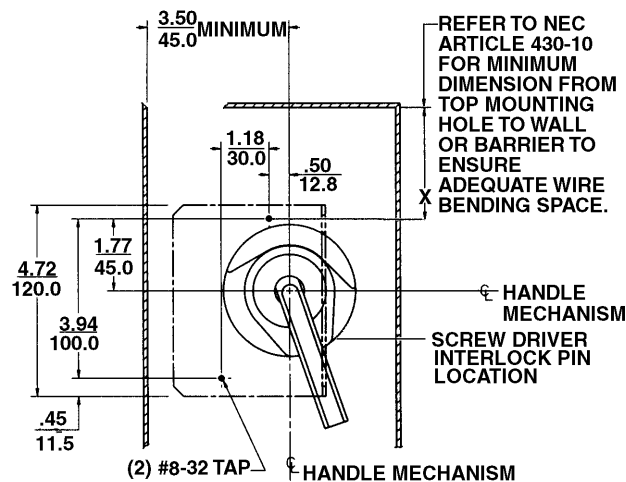
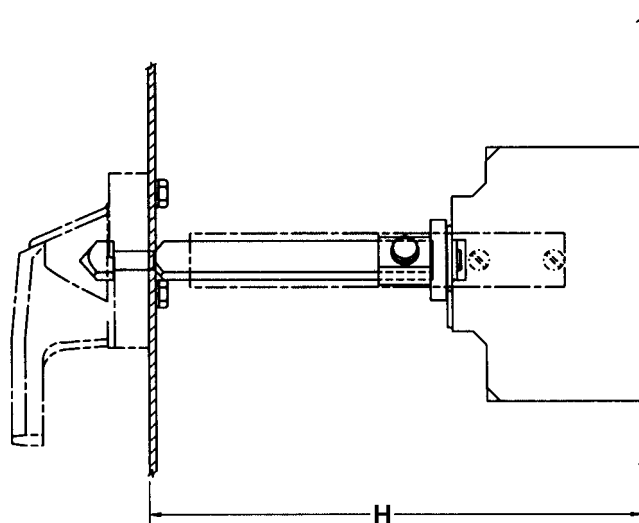

Figure 1 Panel Drilling
Figure 2 3-1/2" Handle Assembly
4. Determine location of circuit breaker on panel (see Figure 1). Mark, drill and tap hole for two #8-32 x 1/2 mounting screws.
6. Determine enclosure mounting depth (dimension H in Figure 2). Calculate the required shaft length (L) using the formula $L = H - 2 - 1/2"$. Cut shaft to length L (see Figure 2).
10. Mount handle assembly and gasket using self tapping screws, lockwashers and washers. The 6" handle assembly is shown in Figure 1 above. The 3-1/2" handle assembly is shown in Figure 2 on page 3.
If an authorized person requires access when the handle and circuit breaker are in the "ON" position, the screwdriver interlock pin can be defeated (see Figure 1 on page 2).